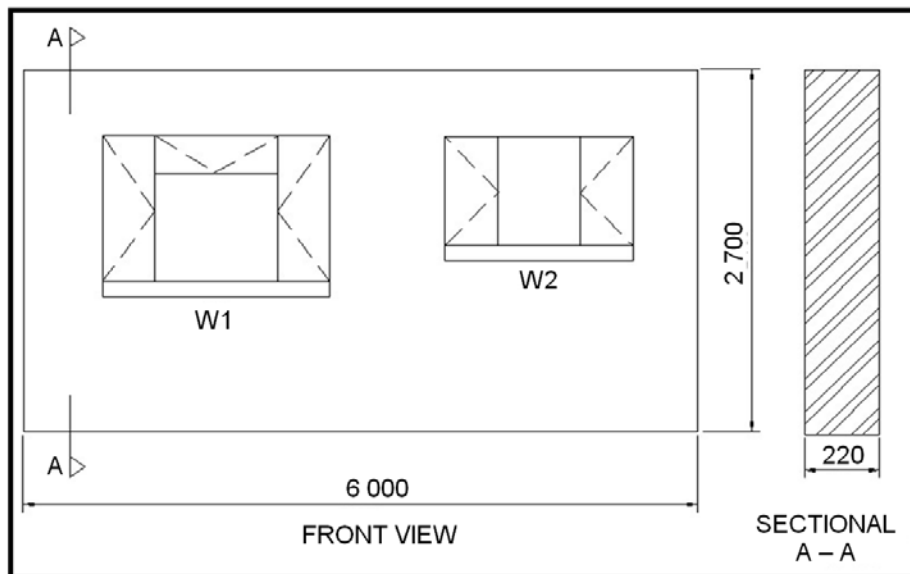

FIGURE 4.3
4.3 FIGURE 4.3 shows the front and sectional views of a wall. Use the four-column method in your Answer Booklet and calculate the following: